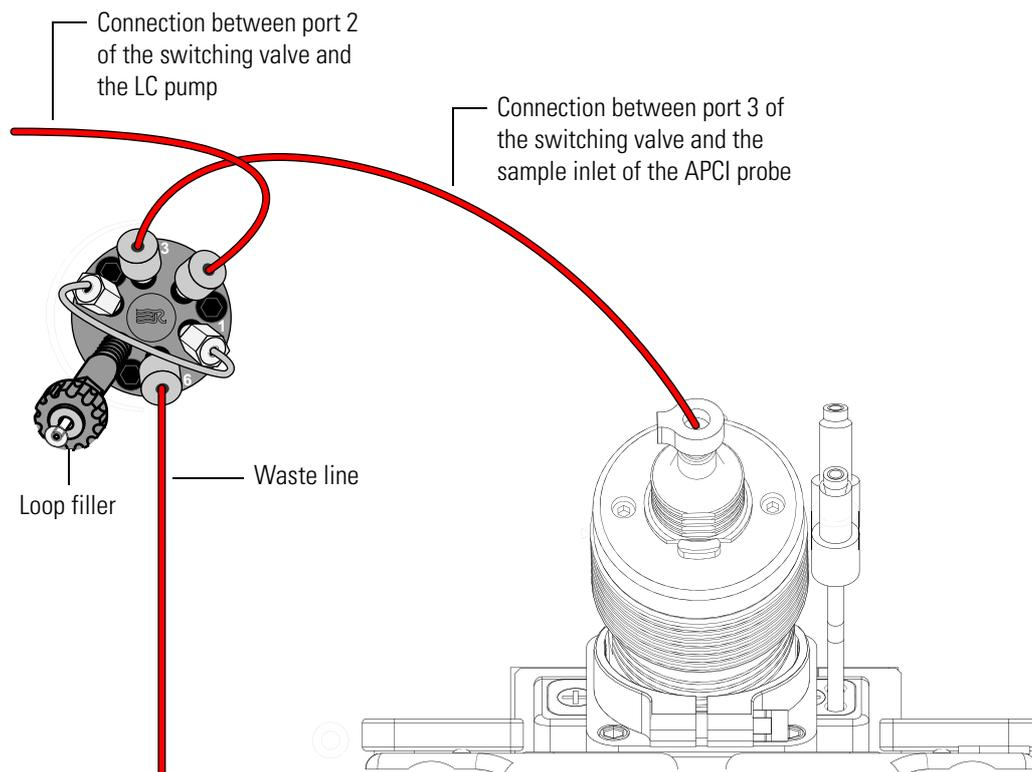

Figure B-11. Plumbing diagram for loop injection into the solvent flow from an LC into an APCI probe
- For the APCI probe, use two fingertight fittings and two ferrules to connect a length of red PEEK tubing between port 3 of the switching valve and the sample inlet of the APCI probe. See Figure B-11.